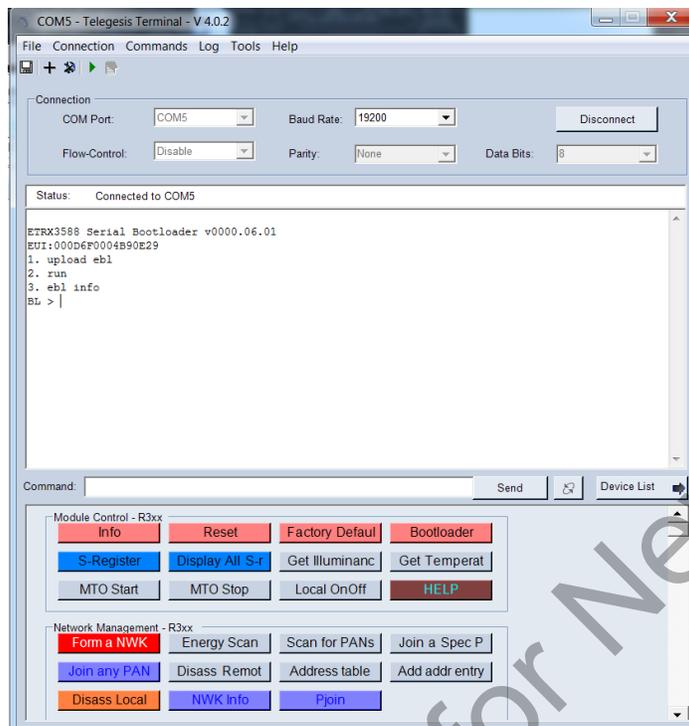

Figure 2.4. Telegesis: Only Bootloader, No Application File
Press **[Enter]** again in order to return to the bootloader menu (shown in Figure 2.4 Telegesis: Only Bootloader, No Application File on page 4) and option **[2]** to run the downloaded application software. After selecting option **[2]**, you may have to refresh the COM ports list again to find the COM port which is connected to the USB stick. To do that, you need to click the **[Disconnect]** button on Telegesis Terminal, then click **[Tools]** → **[Refresh Com Ports]**. After the COM Port shows up, click the **[Connect]** button then **[Info]** button. The response (as shown in the figure below) will contain the firmware version number CICIE R311 and build number for example B120416, which means the firmware file has been successfully uploaded onto the ETRX358USB. Other binaries will give a different response.
1. If the USB is with bootloader version 6.01, 6.02, or 6.03, click the **[Disconnect]** button (twice if the first time gets a rejection) and **[Refresh Com Ports]** to find the COM port (it may be a newly assigned COM Port). Then click the **[Connect]** button and use **[Enter (<CR>)]** on the PC keyboard to get access to the bootloader menu. Then follow the procedure in the previous section, starting just after Figure 2.4 Telegesis: Only Bootloader, No Application File on page 4.